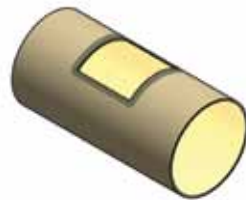

Fig. 65: Cutting or drilling
- 3 Use a circular saw (with a carbide tipped or diamond blade, not a metal one) to cut along the marking or make a hole with a core drill, depending on the type of saddle, and check the dimensions (Figure 65).